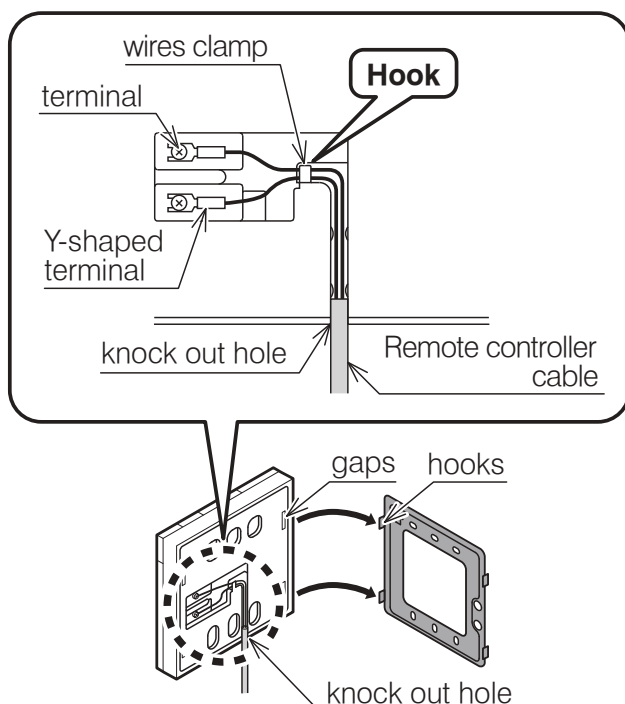

Figure 7-5: Connecting remote controller cable
- The remote controller is connected using the two screw terminals on the rear of the controller. Refer to Figure 7-5.